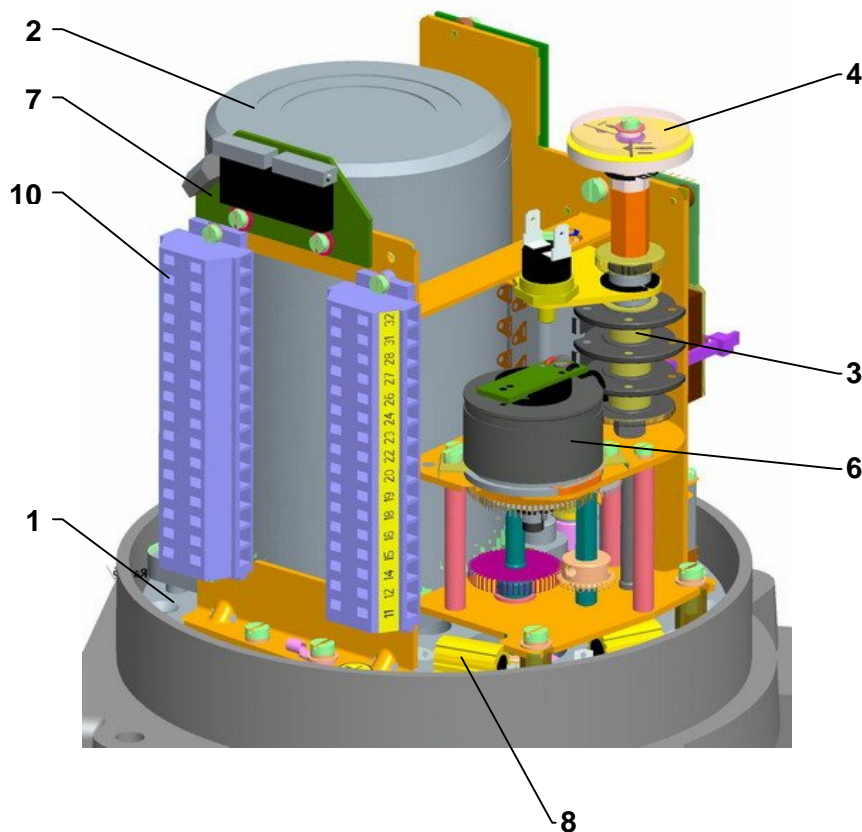

Fig.1
The **control part (Fig. 1, 1a, 1b)** is placed on a control board (1) consisting of:
- electric motor (2) (at single-phase version with capacitor)
- thrust unit (5) - controlled with a worm axial shift
- position-signalling unit (3) with a position transmitter (6)- positioner (resistive - potentiometer, capacitive or electronic position transmitter)(7) and with a mechanical local position indicator (4)
- space heater with thermal switch (8)
- electronic module (9)
- electrical connection through terminals (10), located in the control area and cable glands Ex d version